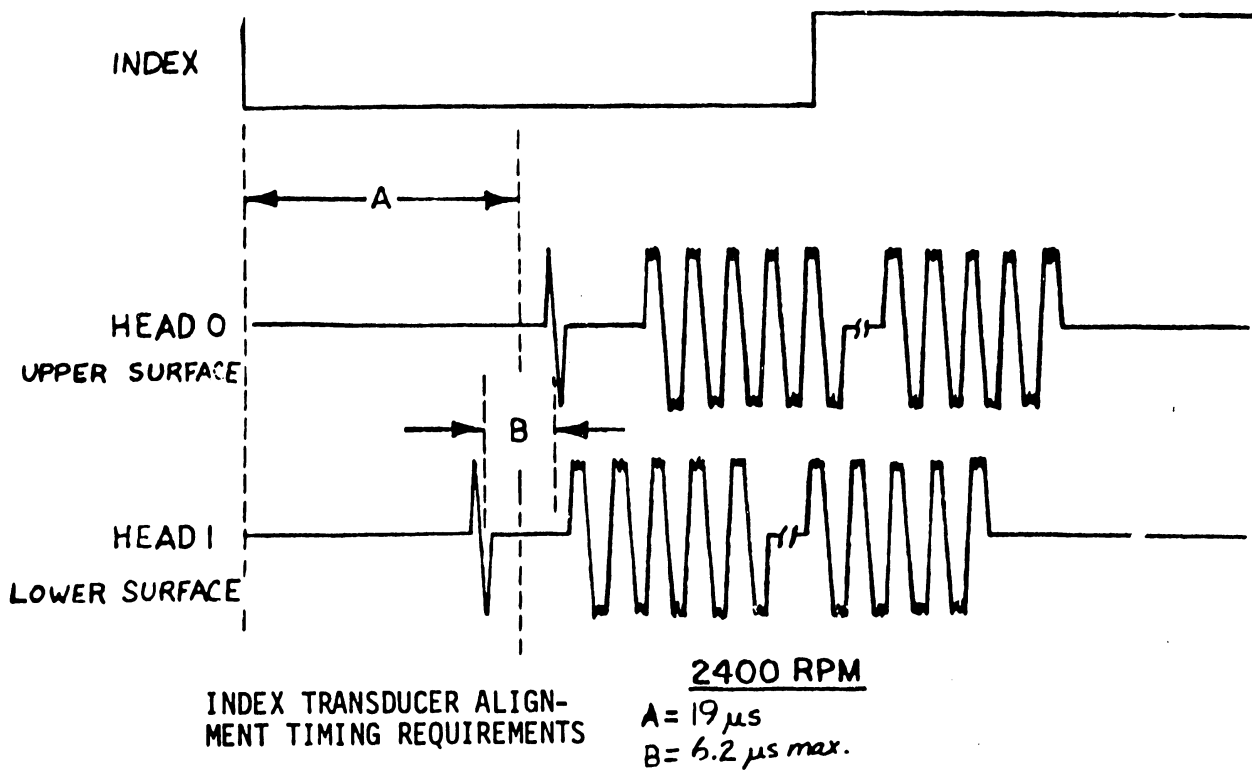

FIGURE 4-67 INDEX WAVEFORM PRESENTATION
25. Trigger channel 2 of the oscilloscope (slope and level negative, sweep rate 5 us/div). The index on channel 1 must be 19 ± 3 usec from the leading edge (Figure 4-67).